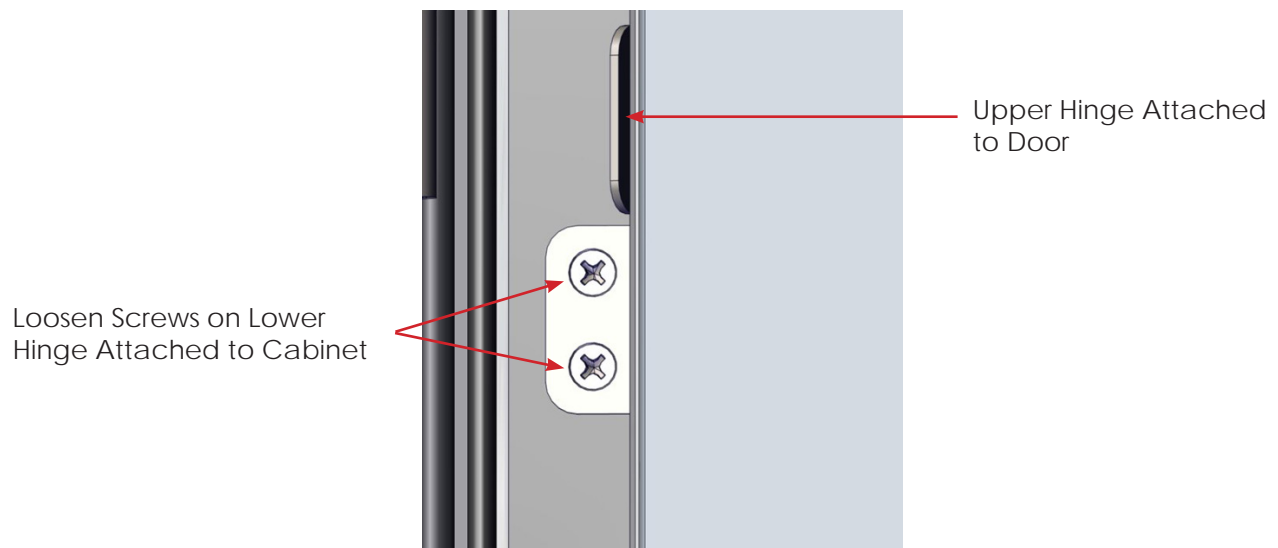

Fig. 20: Loosen Hinge Screws
1. Open one door fully and loosen the screws on the hinges that attach to the sides of the cabinet (two screws per hinge) (Fig. 20).